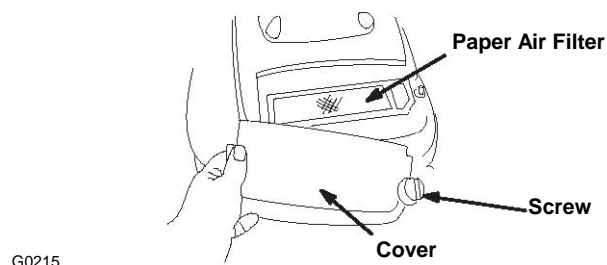

Figure 16
3. Remove the screw that secures the air cleaner cover (Fig 16.)
4. Remove the cover and clean it thoroughly (Fig 16).
6. Remove the foam pre-cleaner and wash it with a mild detergent and water, then blot it dry (Fig 16).